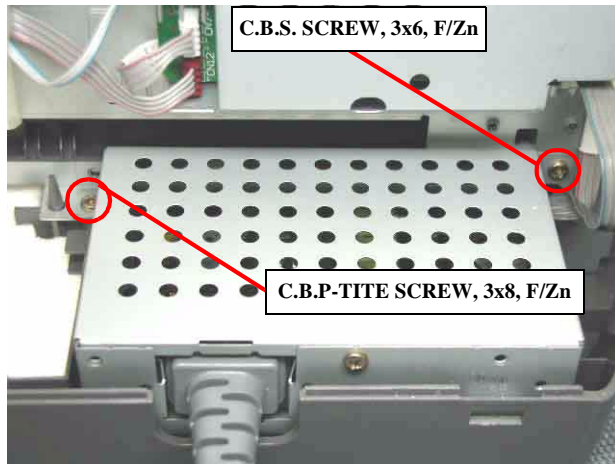

Figure 4-23. PSB/PSE unit removal
- Fasten two screws (C.B.P-TITE SCREW 3x8 F/Zn, C.B.S. SCREW 3x6 F/Zn) for securing the PSB/PSE unit to the Lower housing. (Refer to Figure 4-23)